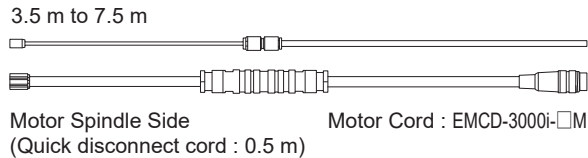

Fig. 17
- "Hose Length" indicates total hose length consisting of the Air Hose supplied with the Motor Spindle and the Air Hose supplied with each Motor Cord. See Fig. 17 and Table 2 to see how to calculate "Hose Length".
*Note 3: "Hose Length" indicates total hose length consisting of the Air Hose supplied with the Motor Spindle and the Air Hose supplied with each Motor Cord. See Fig.17 to see how to calculate "Hose Length".